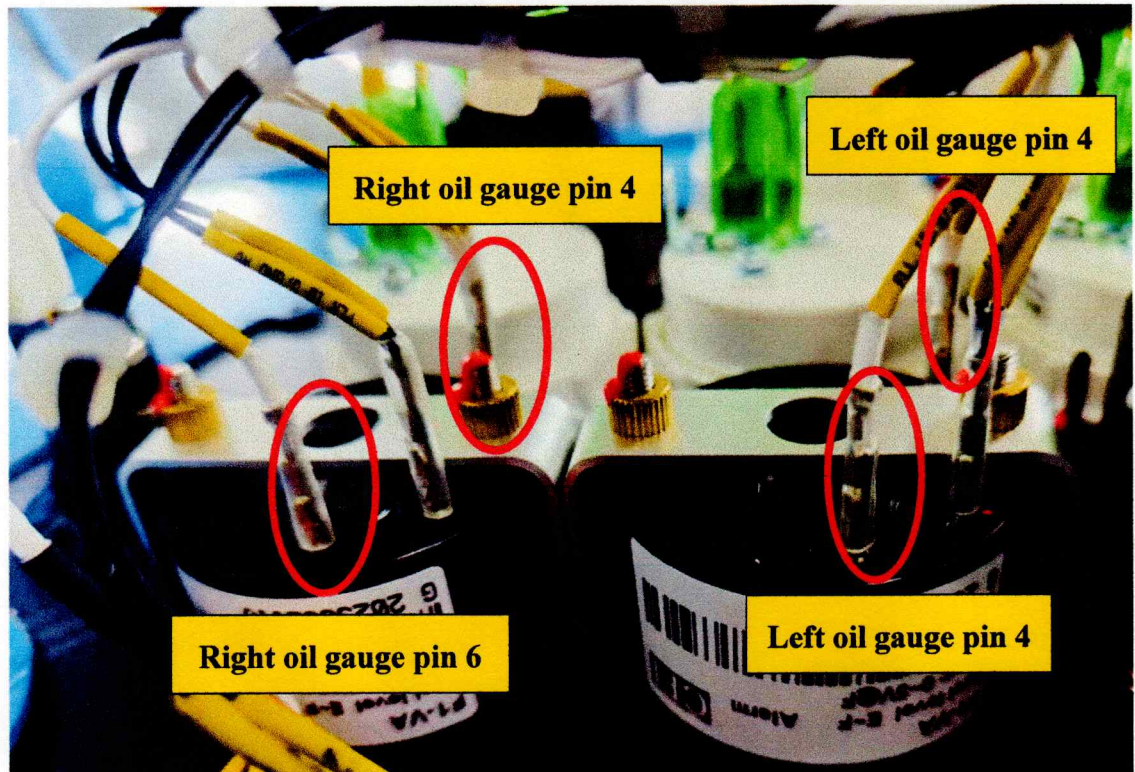

figure 11 Wiring diagram of the left/right oil gauge
a. Remove the pin 4 wiring terminal of the left oil gauge, cut off the original terminal, peel and crimp the wire with the pin 1 lead wire of the 4-core connector on the voice alarm board to a 10A hole type terminal. Cover the hole type terminal with a heat shrink tube, heat to insulate, and insert the hole type terminal into the pin 4 terminal of the left oil gauge. (As shown in Figure 11)